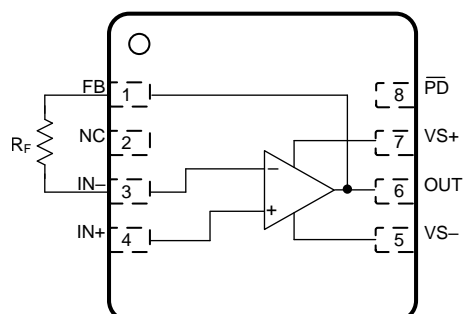

Figure 49. R_F Connection Between FB and IN- Pins
1. A feedback resistor (R_F) can connect between the FB and IN- pin on the same side of the package (see Figure 49) rather than going around the package.